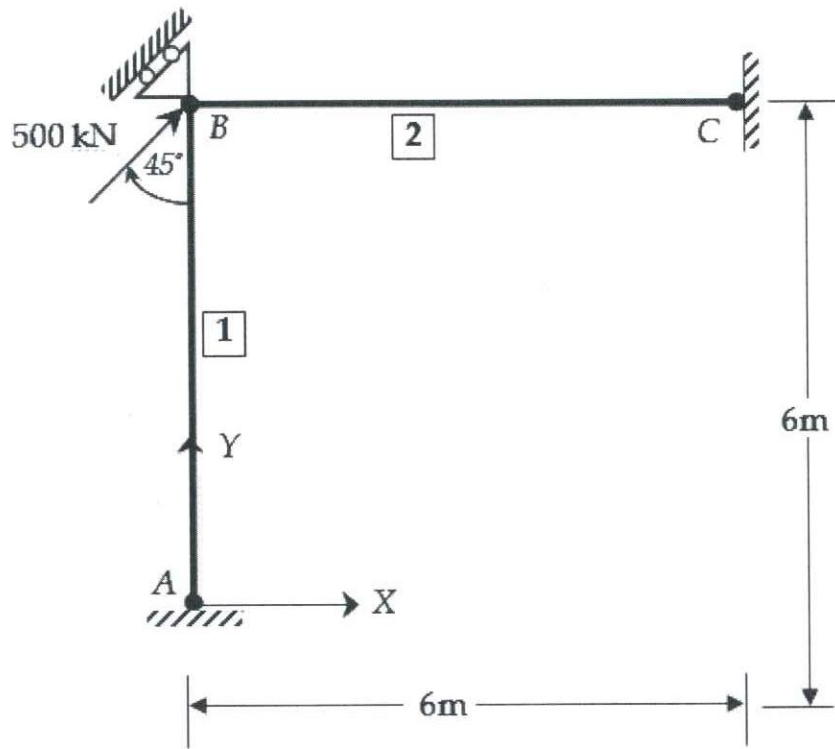

Fig. Q4
- Q4. Pin-jointed 2D truss is pinned support at Nodes **A** and **C** and roller support at Node **B** as shown in Fig. Q4. The Young's modulus $E = 200 \text{ GPa}$ and cross-section area $A = 4.5 \times 10^{-4} \text{ m}^2$ for both elements AB and BC. The truss system is subjected to a force of 500 kN at Node **B**, as shown in Fig. Q4.